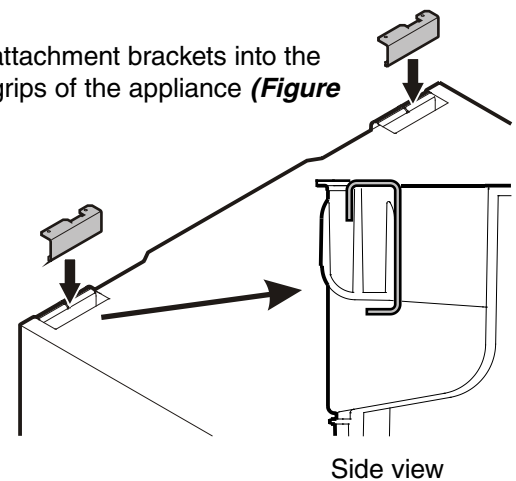

Figure 11
2. Clip both attachment brackets into the transport grips of the appliance (Figure 11).